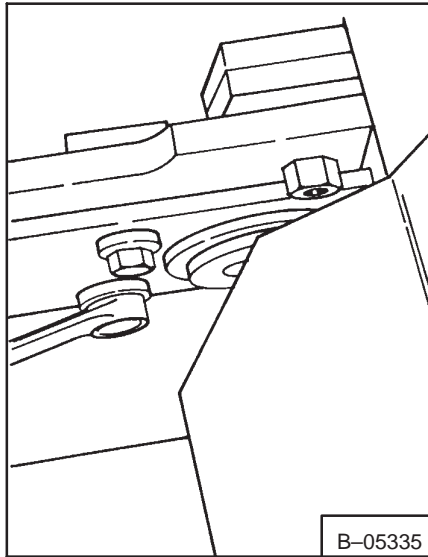

Fig. 3-16 Pintle Bar Bolts
9. Adjust the front pintle bar so that the bar is tight against the lobes of the pintle lever and the transmission is still in the neutral position (Fig. 3-16). Tighten the bolts on the bar to 28 ft.-lbs. (38 Nm) torque.